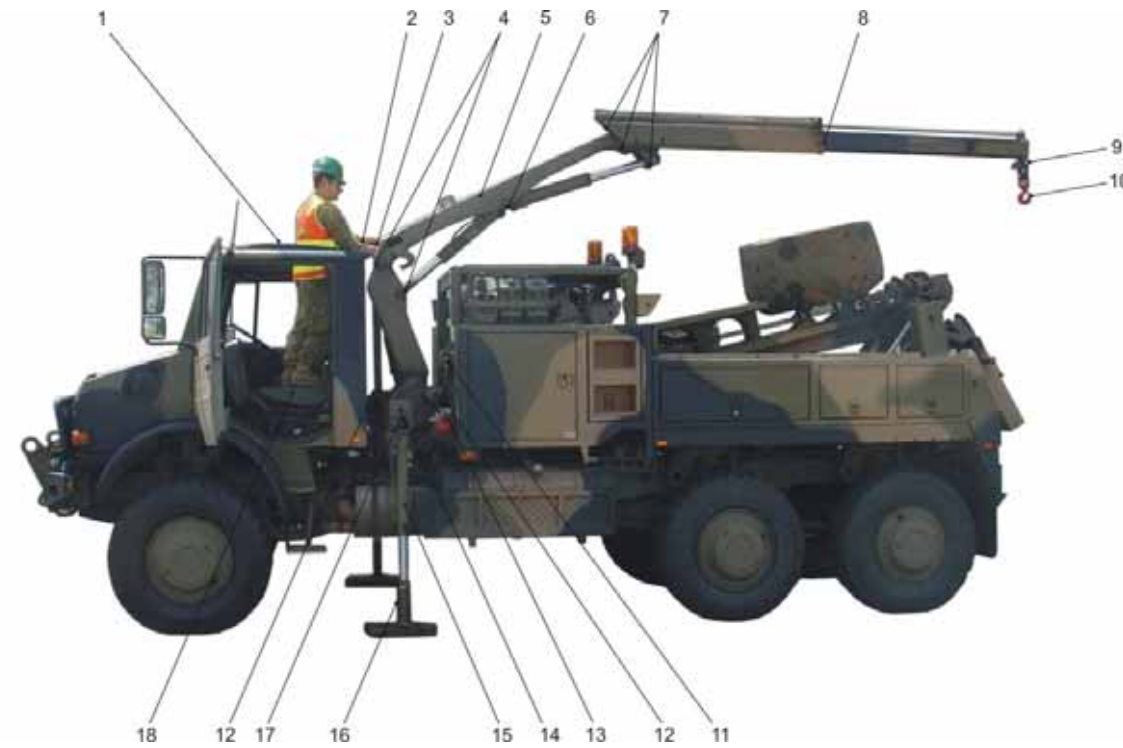

Figure 8 Crane Servicing Points
- 1 Table 10, Servicing Requirements for Crane, refers to Figure 8, Crane Servicing Points.